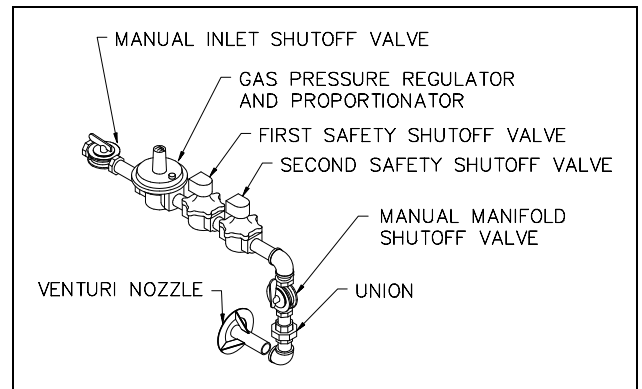

Figure 8
Figure 8 shows the gas control train that is supplied on these heaters.
2. Check manifold pressure (see heater data decal) with a pressure gauge (manometer) connected to the manifold pressure tap on the manual manifold shutoff valve. (See Figure 8, page 12.)